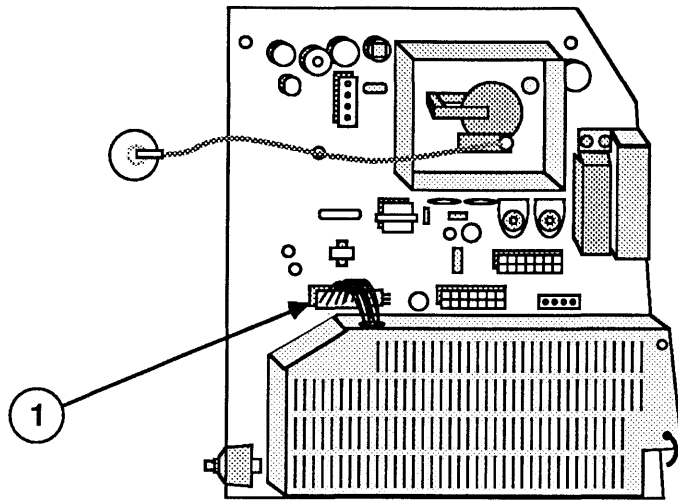

FIGURE 11
4. Reconnect the power supply cable (Figure 11, #1).